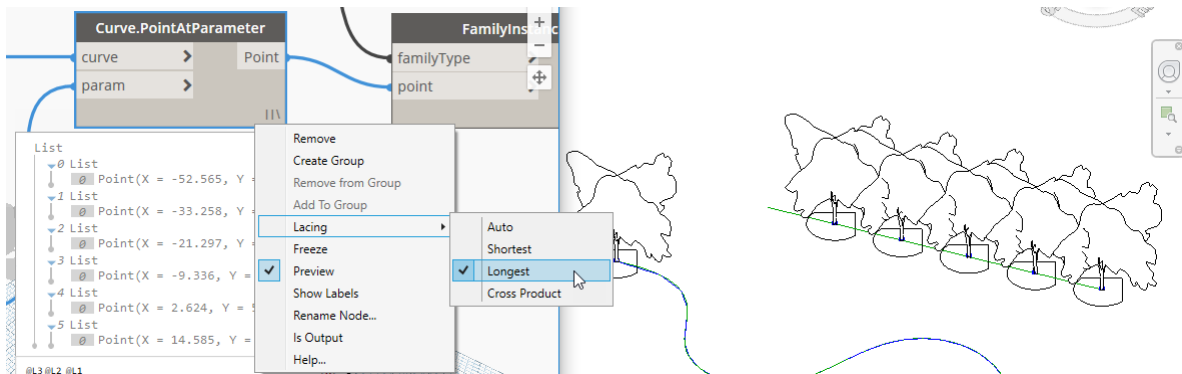

Figure 38
22. Right-click on the **Curve.PointAtParameter** node and choose: **Lacing>Longest** (see Figure 38).